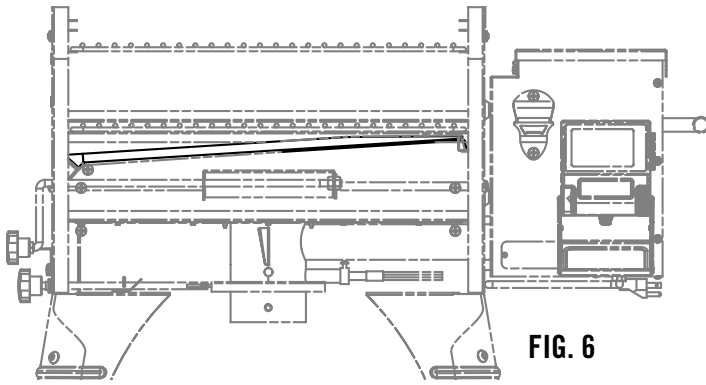

FIG. 6
1. Install the Drip Tray as shown in Fig 5 and Fig 6.